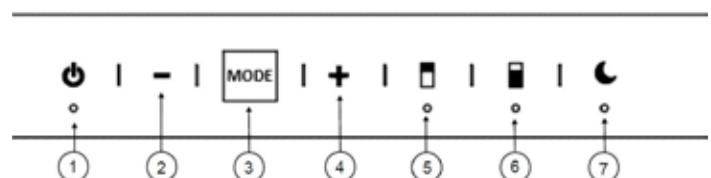

Figure 3: Illustration of 12 volt compressor-type refrigerator control panel
2. Touch and release the ON/OFF button (1) to turn the refrigerator ON (Figure 3).